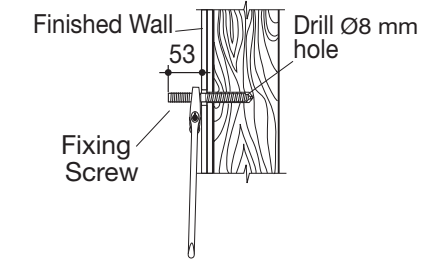

Fig. 2
- 3- Insert expansion fasteners into the drilled holes in masonry wall. The Fixing Screws, should be screwed into the wall using the flat section of the Fixing Screw, with a spanner as shown in **Fig. 2**. Allow 53mm of thread to protrude from the finished wall.